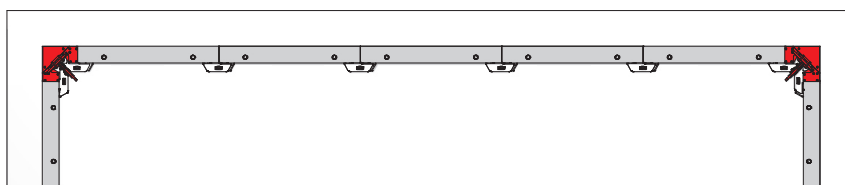

Fig. 27.2
1. Remove the assembly locks connecting the stripping corners to the panels (Fig. 27.2).